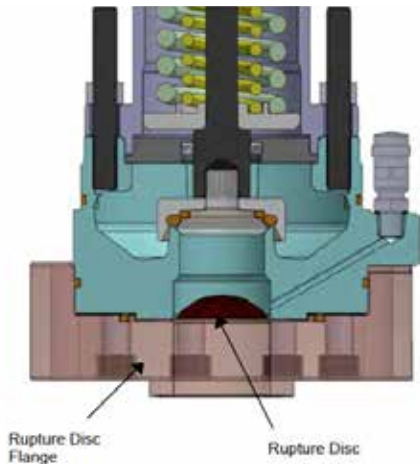

Figure 4-7 Rupture Disc and Disc Flange
- 4.1.10.1** Look very carefully at the section of the disc flange (Figure 4-7) that is contoured to hold the disc. No scratches, radial tool marks, nicks, burrs, or corrosion can be present in the groove or the disc will fail to maintain a pressure-tight seal. If dents, pits or gouges are observed, do not attempt to remove them by machining. Discard the flange and obtain a new one.